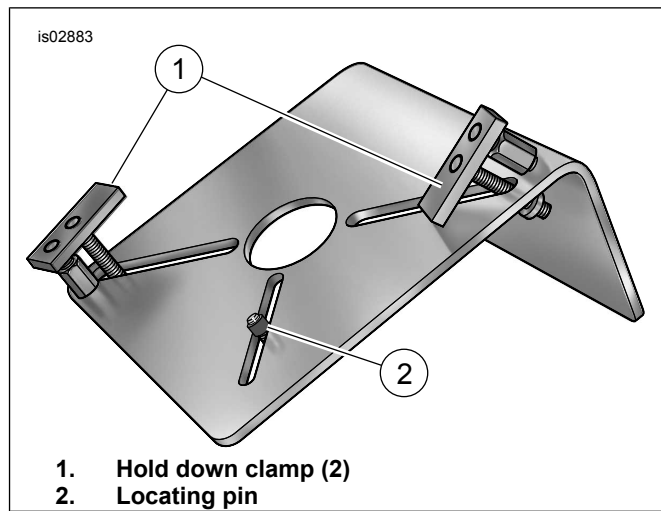

Figure 2. Flywheel Fixture (Part Number HD-44358)
1. Obtain FLYWHEEL SUPPORT FIXTURE (HD-44358), see Figure 2. Install brass jaws or shop towels around the teeth of a vise to prevent tool damage. Clamp the tool in the vise with the round hole topside.
4. See Figure 2. Position the WEDGE ATTACHMENT (HD-95637-46A) on the inboard side of the thrust washer, and turn the hex nuts an equal number of turns to draw the halves of the wedge together.